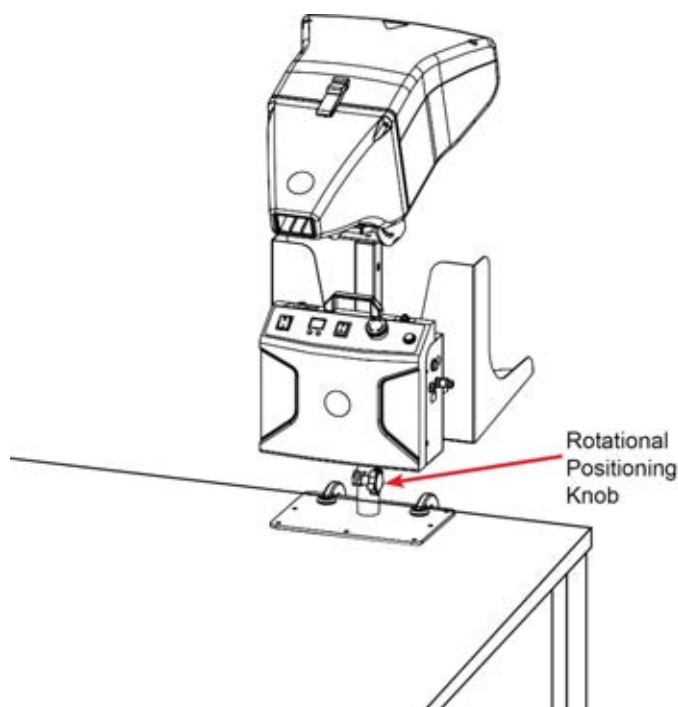

Figure 15 Positioning the Table-Top Dispenser Output Chute
1. Turn the Rotational Positioning Knob three turns counterclockwise to loosen the **Dispenser** Stand Positioner (refer to Figure 15).
3. Tighten the Rotational Positioning Knob by turning it clockwise (refer to Figure 15).